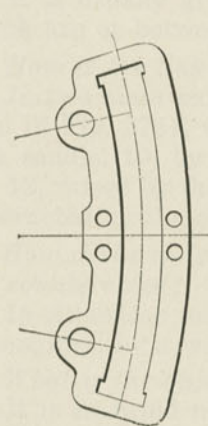
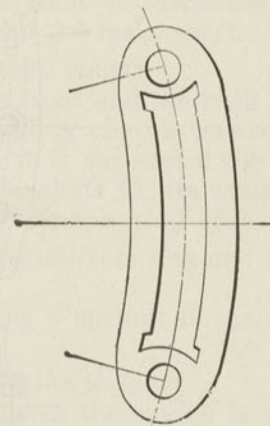

Fig. 279. Usual Link.
Fig. 280. Open Link.
*A. One in which the eccentric pins instead of being back of the link as in Fig. 279, are as in Fig. 280.*